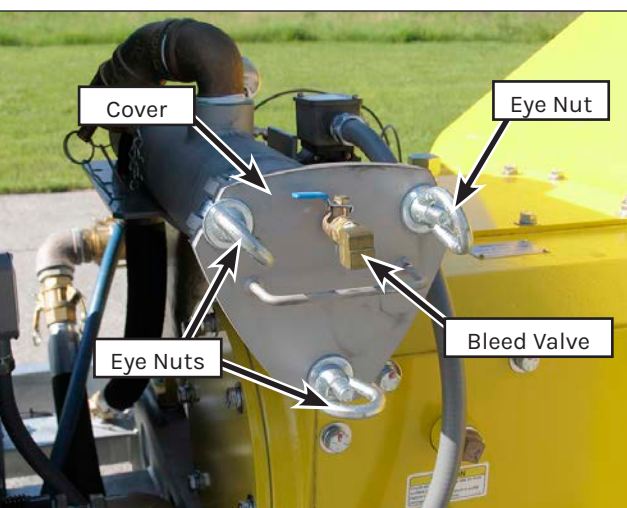

Figure 56: Filter Cover.
1. Relieve pressure from the housing using the bleed valve then loosen the three eye-nuts (Figure 56) on the filter cover.